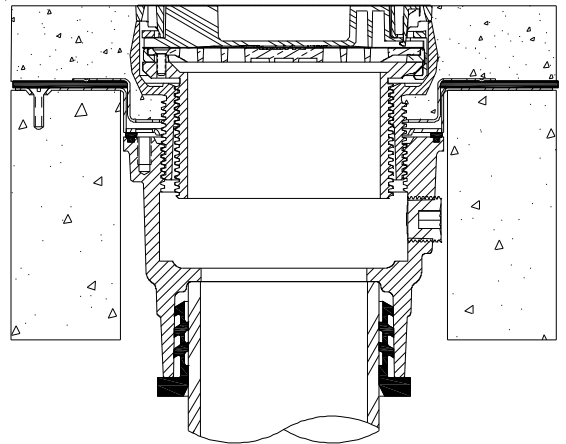

Fig. 8
8. Pour finish floor slab flush to the top of the rough-in cover. See Fig. 8